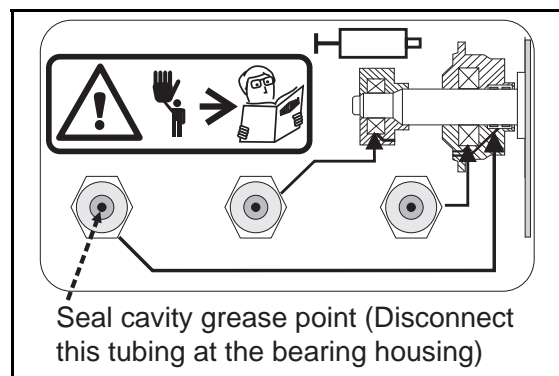

FIGURE 3 (MSSM0272AE) — Identifying the Seal Cavity Grease Point
1. Locate the tubing running from the seal cavity grease point to the bearing housing (FIGURE 3). Disconnect this tubing at the bearing housing.